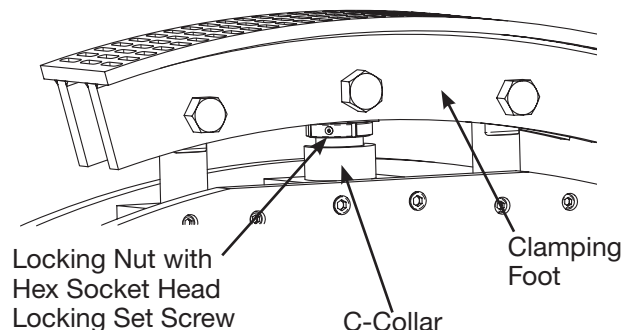

Figure 19: Clamping foot on base
12. Wind the 3 x Lock Nuts down to the mechanical locks (or 'C-Collars') & tighten the hex socket head grub screw to lock the hydraulic rams in place. See figure 19.